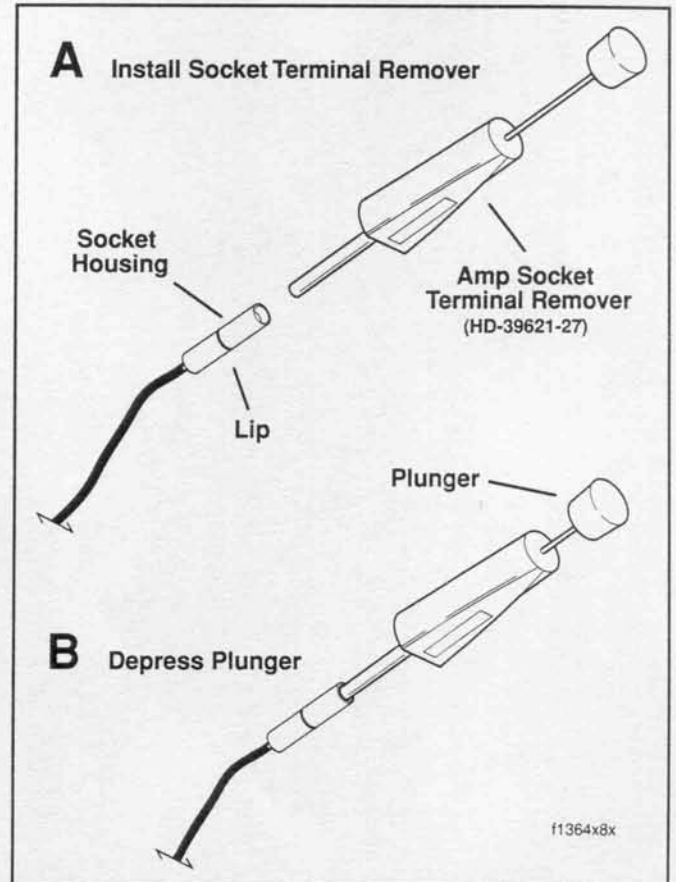

Figure A-19. Remove Terminal from Amp Socket Housing
4. Fit the barrel of the Amp Socket Terminal Remover (HD-39621-27) over the socket until it bottoms in the housing. See Figure A-19.